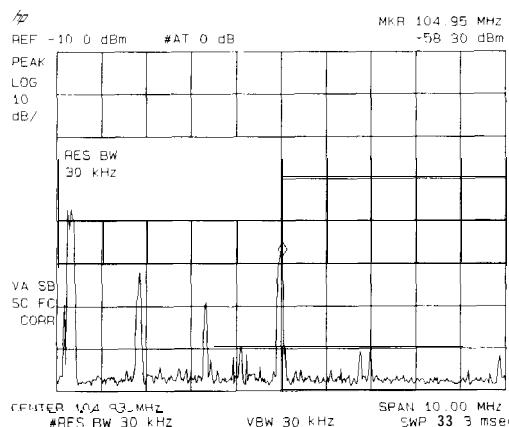

Figure 3-18. Decreasing Resolution Bandwidth
2. Press **(BW)** then **↓**. The low-level signal appears more clearly because the noise level is reduced. See Figure 3-18.